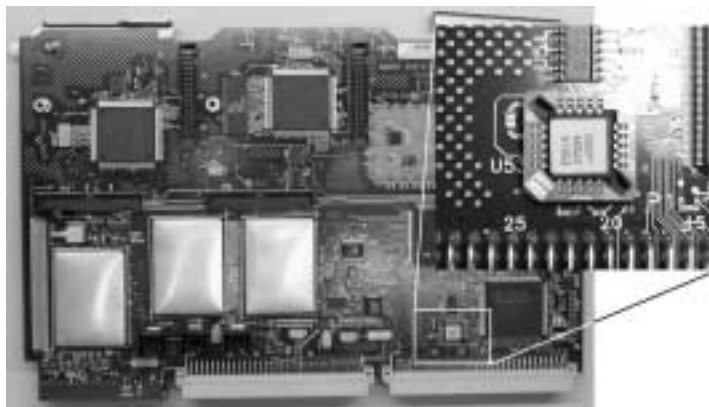

Figure 1
1. Move the chip (E5515-87024) from U53 on the ADC. (Refer to Figure 1)
2. Install the new chip (E5515-8736) to the U53 location on the ADC. (Refer to Figure 1)